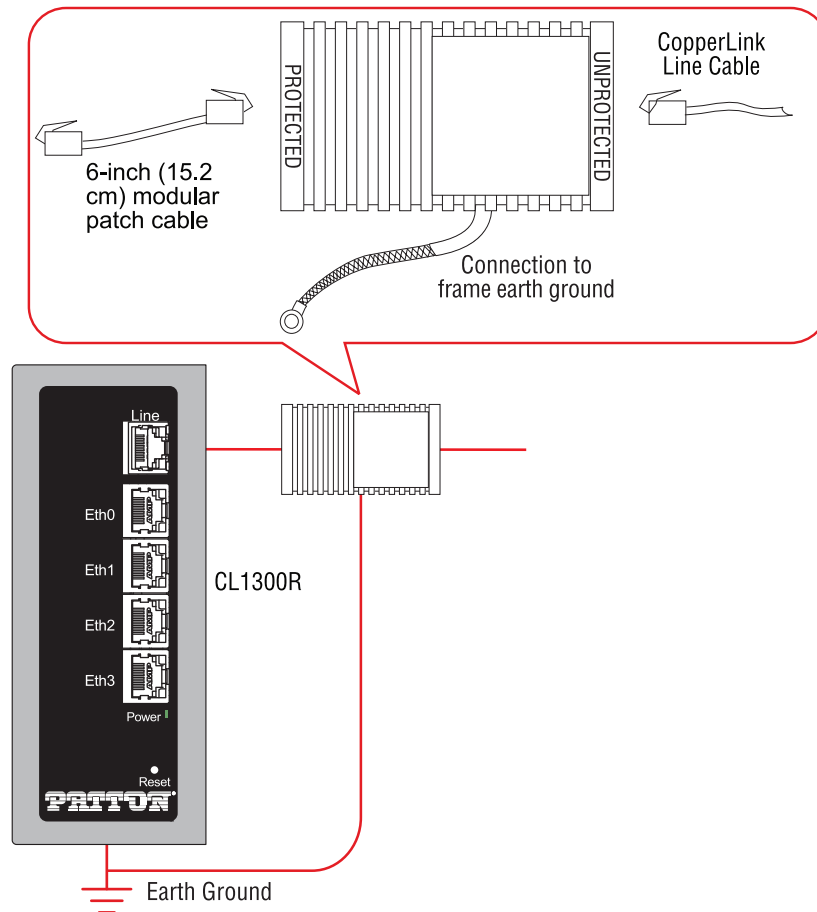

Figure 29. Connecting the 552-GS2 to a CL1300R
1. If it is already connected, unplug (disconnect) the existing connection between the CopperLink Line cable and the CL1300R's *Line* port (see figure 29 on page 62).